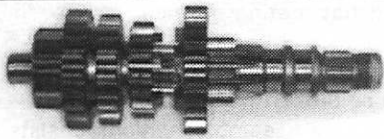

Figure 46
- Clutch shaft: Figure 44 and Figure 46.